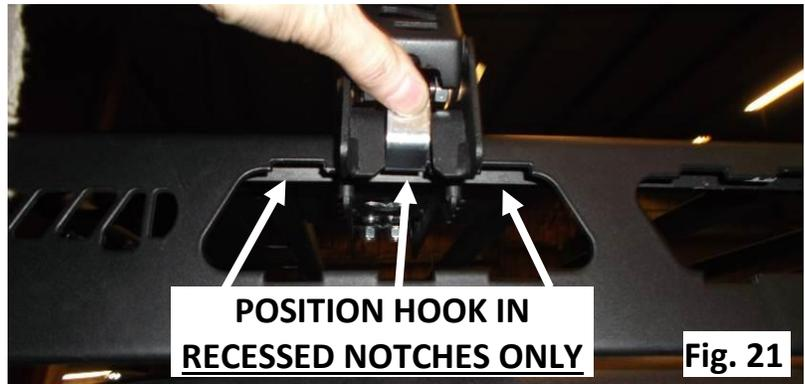

Fig. 20
- a. To prepare the platform and latches to be lifted onto the rail, you may find it beneficial to swing the silver latch hooks all the way out and screw them against the latch handle body until they stay in position. (**Fig. 20**) By tightening the latch hooks against the latch handle, you prevent them from dangling and getting in the way when setting the latches on top of the rails.